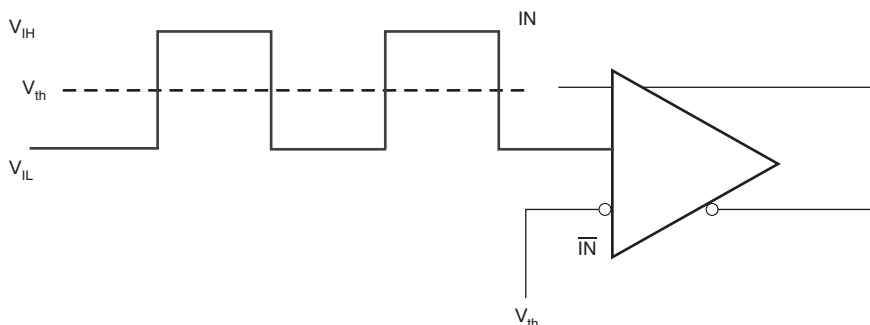
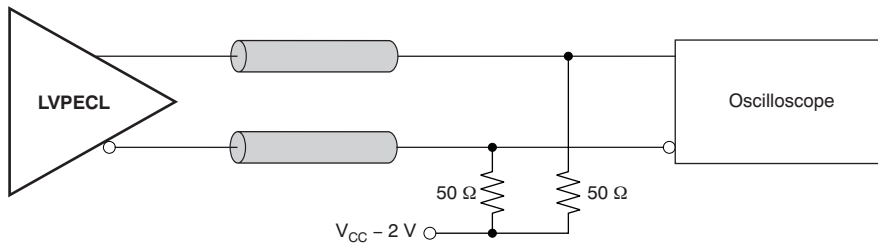
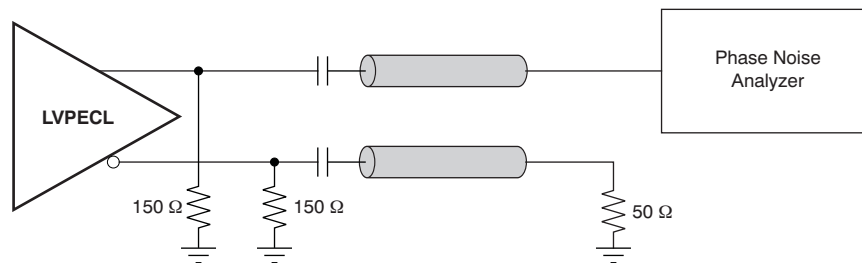

Figure 3. DC-Coupled LVCMOS Input During Device Test
Figure 8. LVPECL Output DC Configuration During Device Test
Figure 9. LVPECL Output AC Configuration During Device Test
(1) Figure 3 and Figure 4 show dc test setup.
(1) Figure 8 and Figure 9 show dc and ac test setup.
(2) Internally generated bias voltage ( $V_{AC,REF}$ ) is for 3.3-V operation only. It is recommended to apply externally generated bias voltage for  $V_{CC} < 3.0\text{ V}$ .
This section describes the function of each block for the CDCLVP1204. Figure 3 through Figure 9 illustrate how the device should be setup for a variety of test configurations.